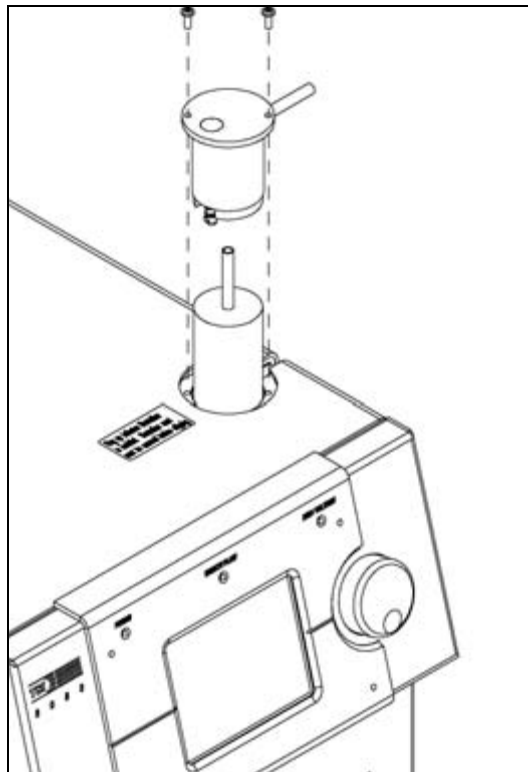

Figure 2-2
4. Insert the neutralizer with the long tube up and the screws in the side of the neutralizer aligned with the slots in the neutralizer mounting block as shown in Figure 2-2.